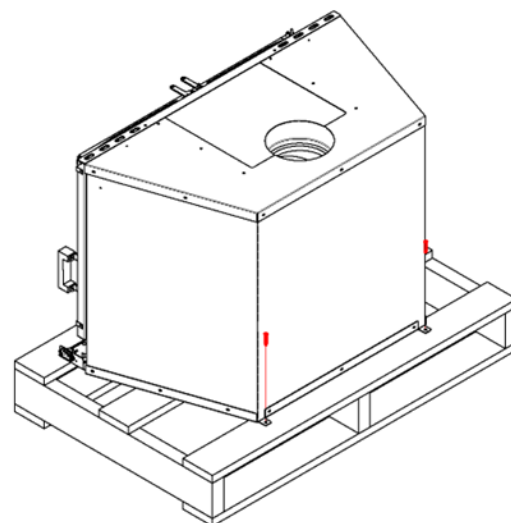

Figure 3-4: FLAIR Removal from Pallet
- Unfasten the back of the unit from the pallet (Figure 3-4).